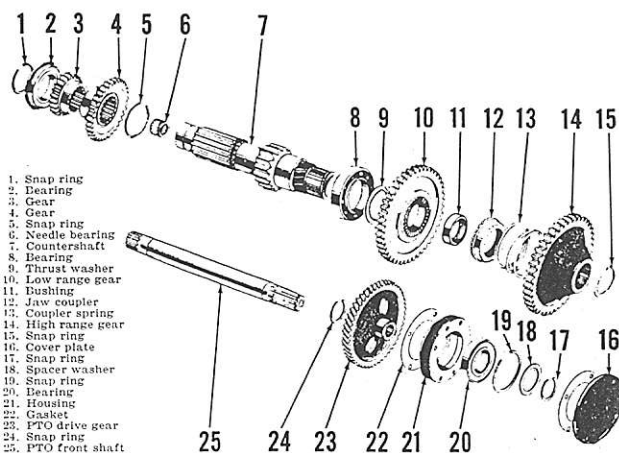

Fig. 231—Exploded view of transmission lower shafts and associated parts. Refer to Fig. 230 for cross sectional assembled view.
(16—Fig. 231) and remove the plate. Remove snap ring (17) and spacer (18) on some early models; or snap ring (17—Fig. 230) on late models. On all models, use two 3/8-inch NC cap screws as forcing screws and remove front bearing retainer (21—Fig. 231) and bearing (20) as a unit. Slide pto front drive shaft (25) out rear of transmission case and countershaft (7), and lift pto drive gear (23) out top opening.